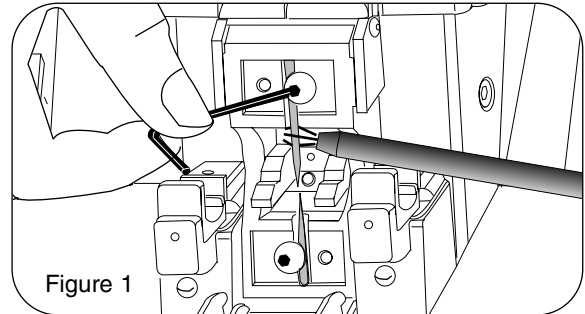

Figure 1
2. Open the light tower. Grip one of the electrodes with the tricep tool. Use the hex wrench to loosen the set screw that secures the electrode by approximately one revolution (Figure 1).